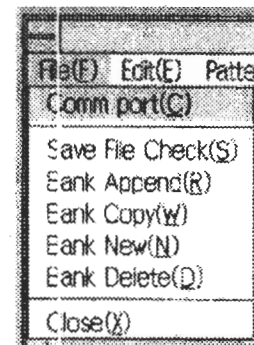

Figure 4-18
① "File(E)" pull-down menu (Figure 4-18)